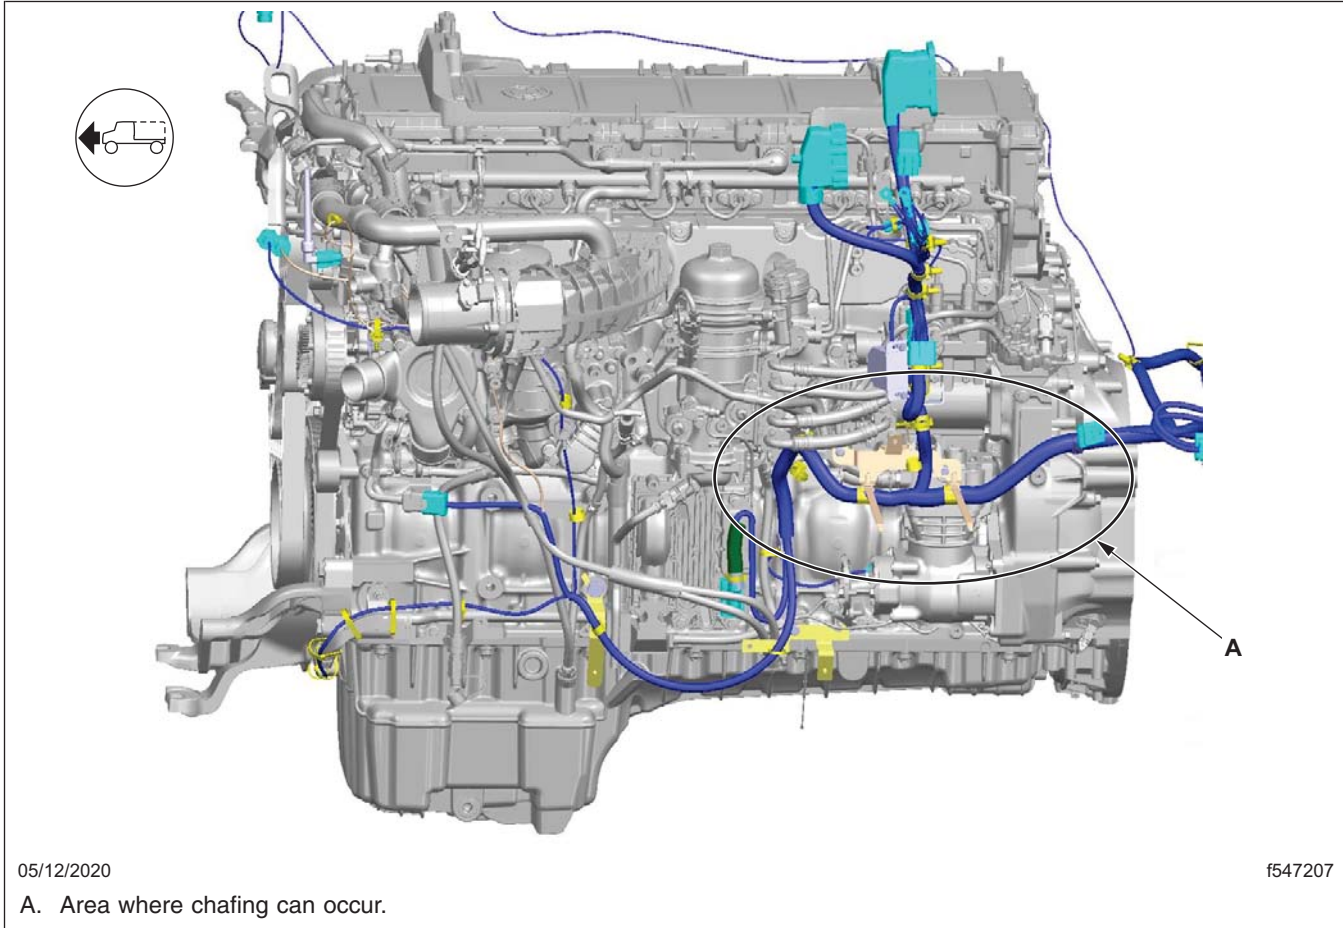

Fig. 1, Area of Concern for Harness Chafing
4. Disconnect and remove all the connectors, clamps, and clippings as needed from the engine harness near the air compressor in order to remove the bracket. See Fig. 1. Repair any harness wiring damage as needed. Refer to SB54-290, *Guidelines for Repairing or Replacing an Electrical Harness* and to Table 6 for available sizes of twist tube.